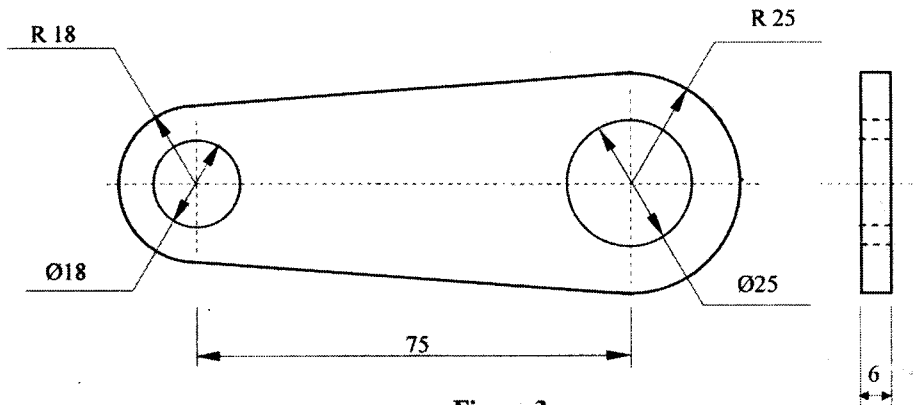

Figure 3
- 12 (a) Figure 3 shows a link to be made of 6 mm thick mild steel. Outline the procedure of making the link naming all the tools required in each step. (6 marks)